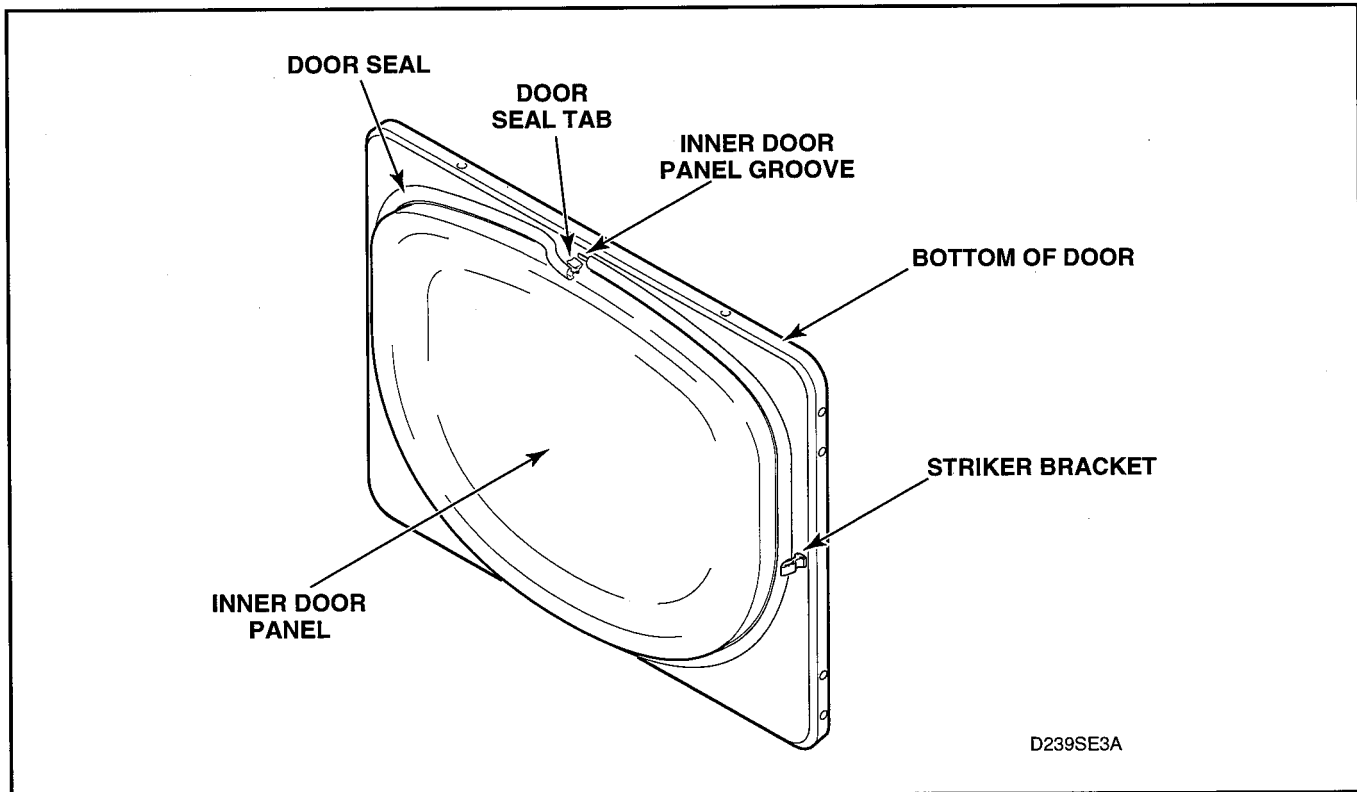

Figure 5-5
10. DOOR STRIKE (Figure 5-5)
11. DOOR SEAL (Figure 5-5)
- Grasp either end of door seal at bottom of door and remove seal from tabs on inner door panel by gently pulling on the seal. See figure 5-5.
NOTE: When replacing seal, be sure seal is not stretched or distorted. The groove in the seal should be installed on each tab of the inner door panel, as in figure 5-5. The split in the seal should be at the bottom of the door.